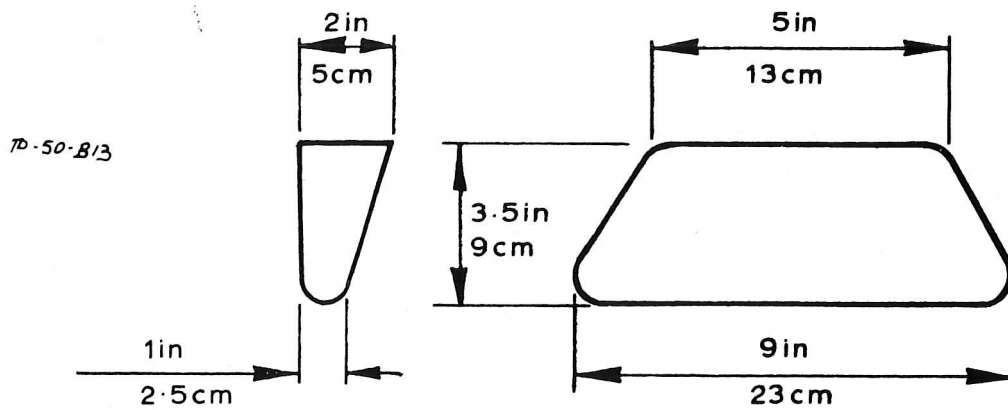

Fig. 21. APPROXIMATE SIZE OF BLOCK
3. Shape the blocks which are to be used to fill the troughs, as in Fig.21, such that they are a firm fit and finished flush with the surrounding G.F.R.P.
17. Place the main butyl strip in position on the screen, ensuring that one leg is on the glass whilst the other leg is on the trim strip. The edge of the trim strip must be flush with the edge of the butyl (see Fig. 21). Make the join in the butyl on one of the windscreen pillars, cutting at a 45° angle. Place narrow butyl strip on the rear of the corner clips.